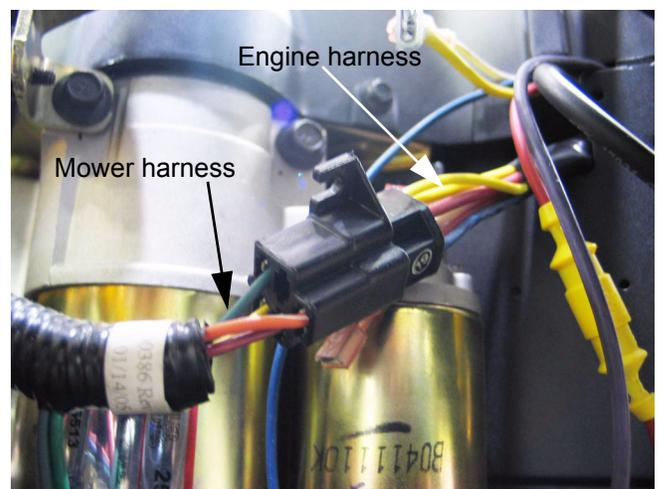

Figure 28.26
28.26. Engine harness to mower harness connector: is located near the starter motor. See Figure 28.26.